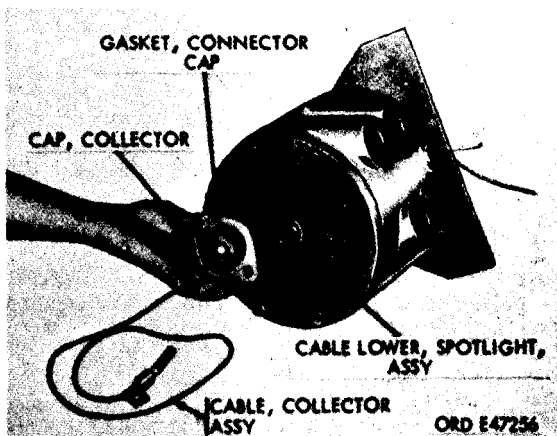

Figure 469. Removing collector cap from swivel valve
(fig. 469) and collector cap gasket (Z). The collector cap (C) enables electric current to pass through the swivel valve to the spotlight mounted on the crane. When cap is removed, it will then be possible to remove spotlight lower cable assembly (fig. 468) by threading up through the inner hub (L) of the swivel valve. If collector cap is defective, remove collector cable assembly (fig. 468).